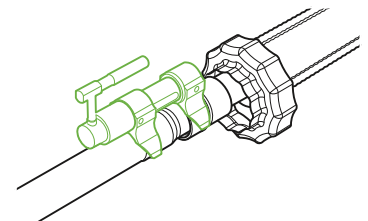

Fig. B10.2.7
8. Assemble the press tool with its press jaws (Fig. B10.2.7).